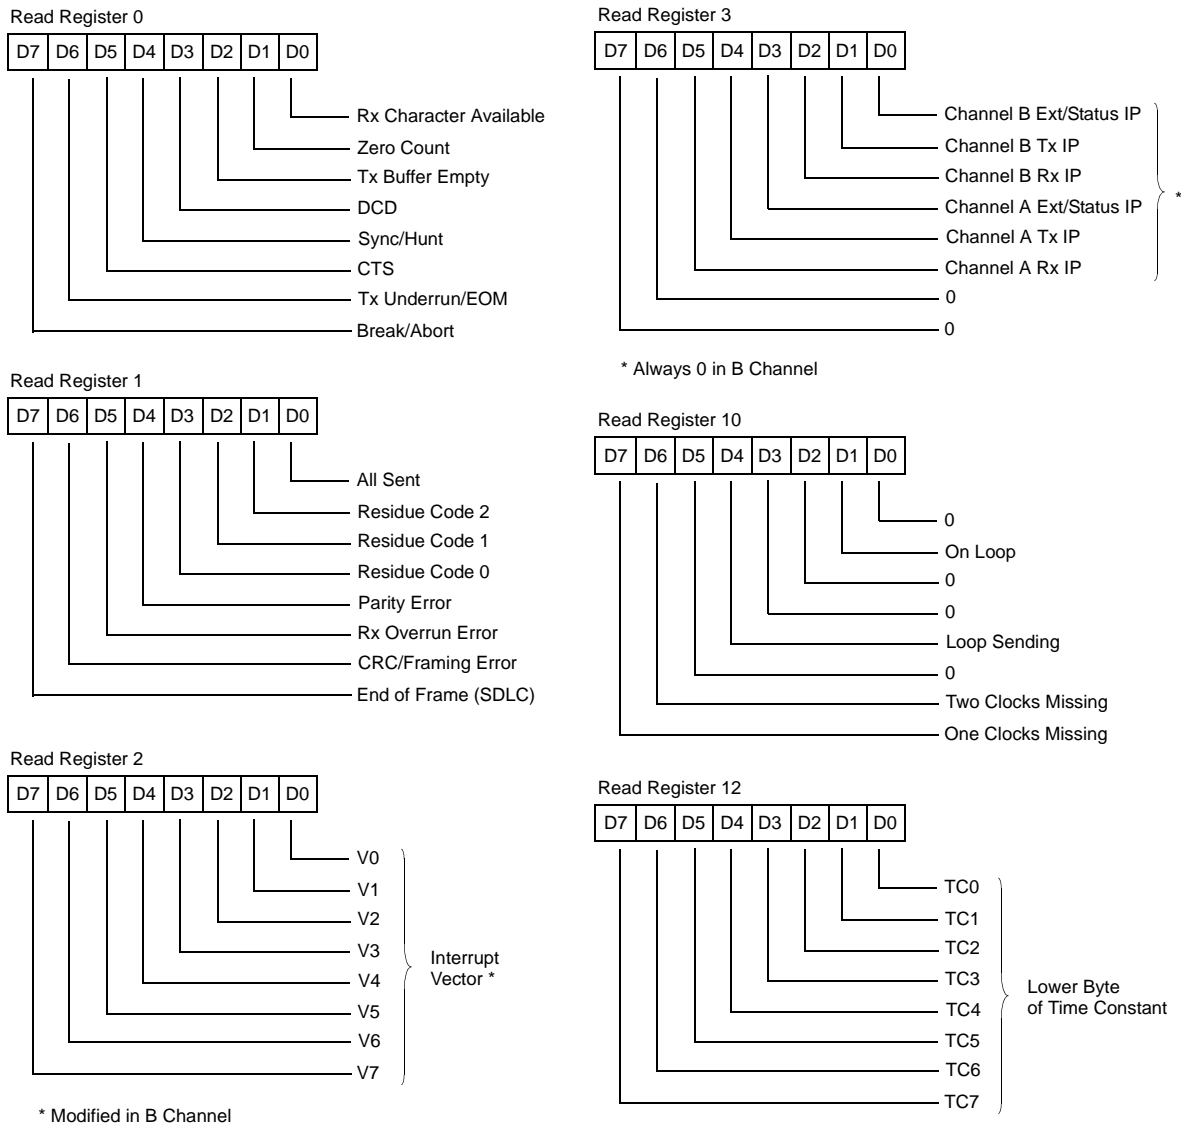

Figure 19. Read Register Bit Functions
The SCC contains ten Read registers (eleven, counting the receive buffer (RR8) in each channel). Four of these can be read to obtain status information (RR0, RR1, RR10, and RR15). Two registers (RR12 and RR13) are read to learn the Baud Rate Generator time constant. RR2 contains either the unmodified interrupt vector (Channel A) or the vector modified by status information (Channel B). RR3 contains the Interrupt Pending (IP) bits (Channel A only; see Figure 19). RR6 and RR7 contain the information in the SDLC Frame Status FIFO, but is only read when WR15 D2 is set (see Figures 19 and 20).